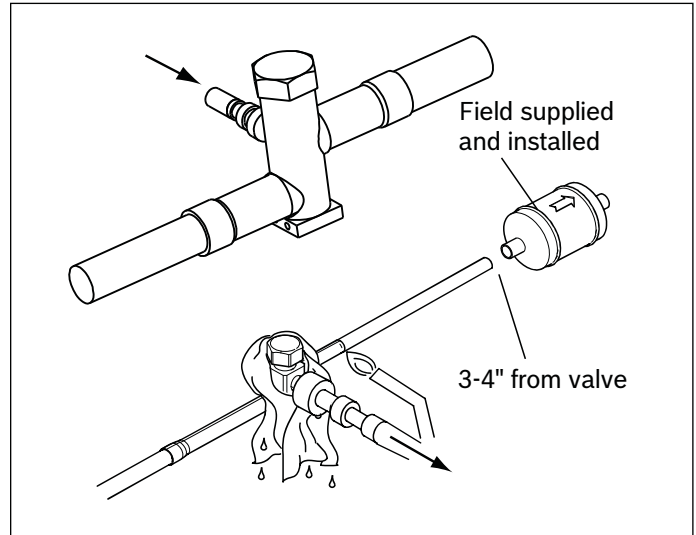

Figure 18
- Wrap a wet rag around the valve body to avoid heat damage and continue the dry nitrogen purge (Fig. 18).